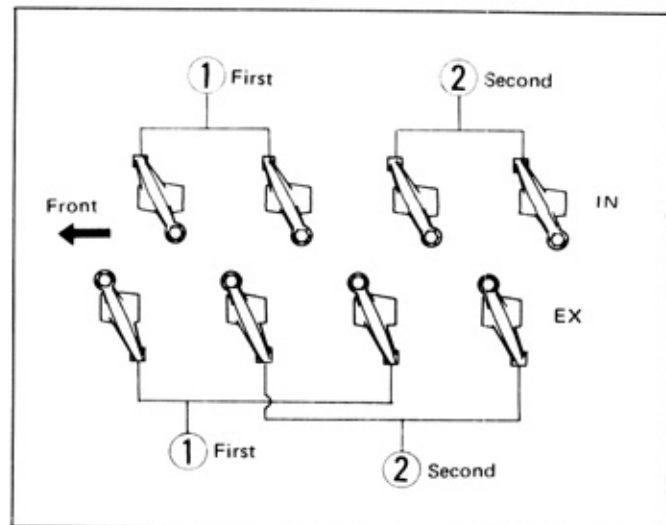

Fig. 18-20 Valve Clearance Adjustment Order (2T-C)
- Check and adjust the valve clearances ① shown in Fig. 18-20 or 18-21.
- Then, turn the crankshaft one full rotation and check and adjust the valve clearance ② shown in Fig. 18-20 or 18-21.